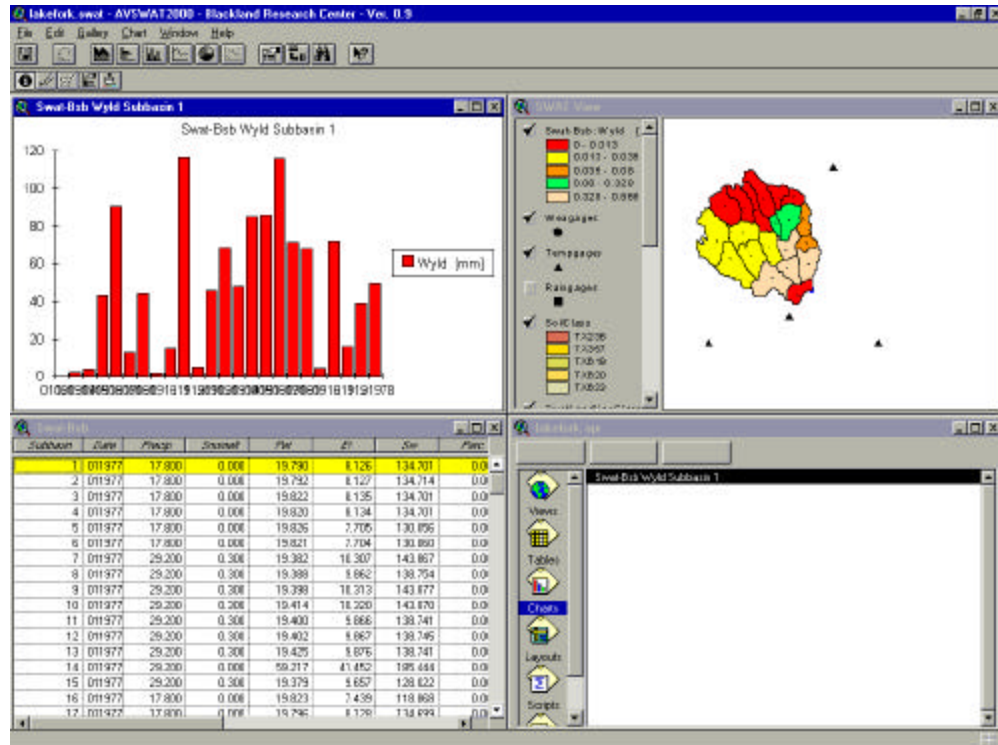

Figure 15.45
- A map of the water yield for all subbasins in 01/1997 will be plotted and the water yield for subbasin 1 will be graphed for the period specified (Figure 15.45).